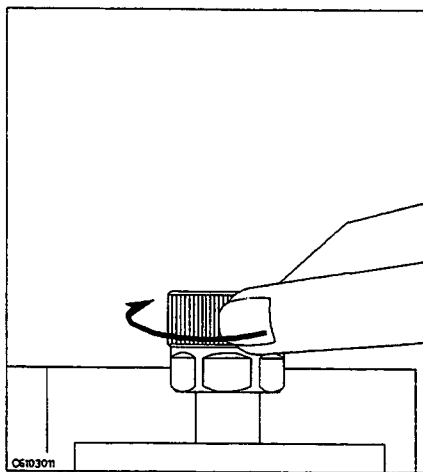

Figure 5-5.
3. Turn the APC-7[®] connector on the test head as shown in Figure 5-5.